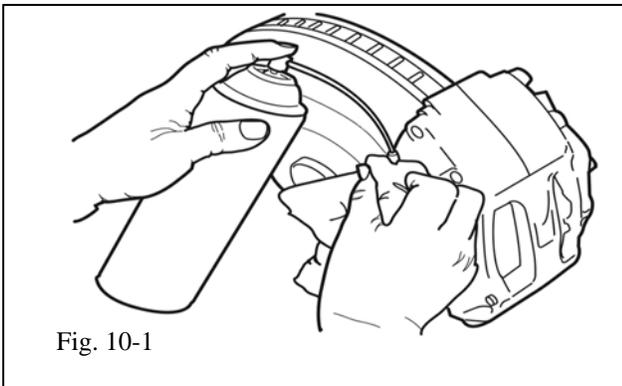

Fig. 10-1
-  (a) Remove any traces of brake fluid which may remain in the bleed screw nipples by spraying brake cleaner into each one, and using a soft cloth to wipe away any excess (Fig. 10-1).